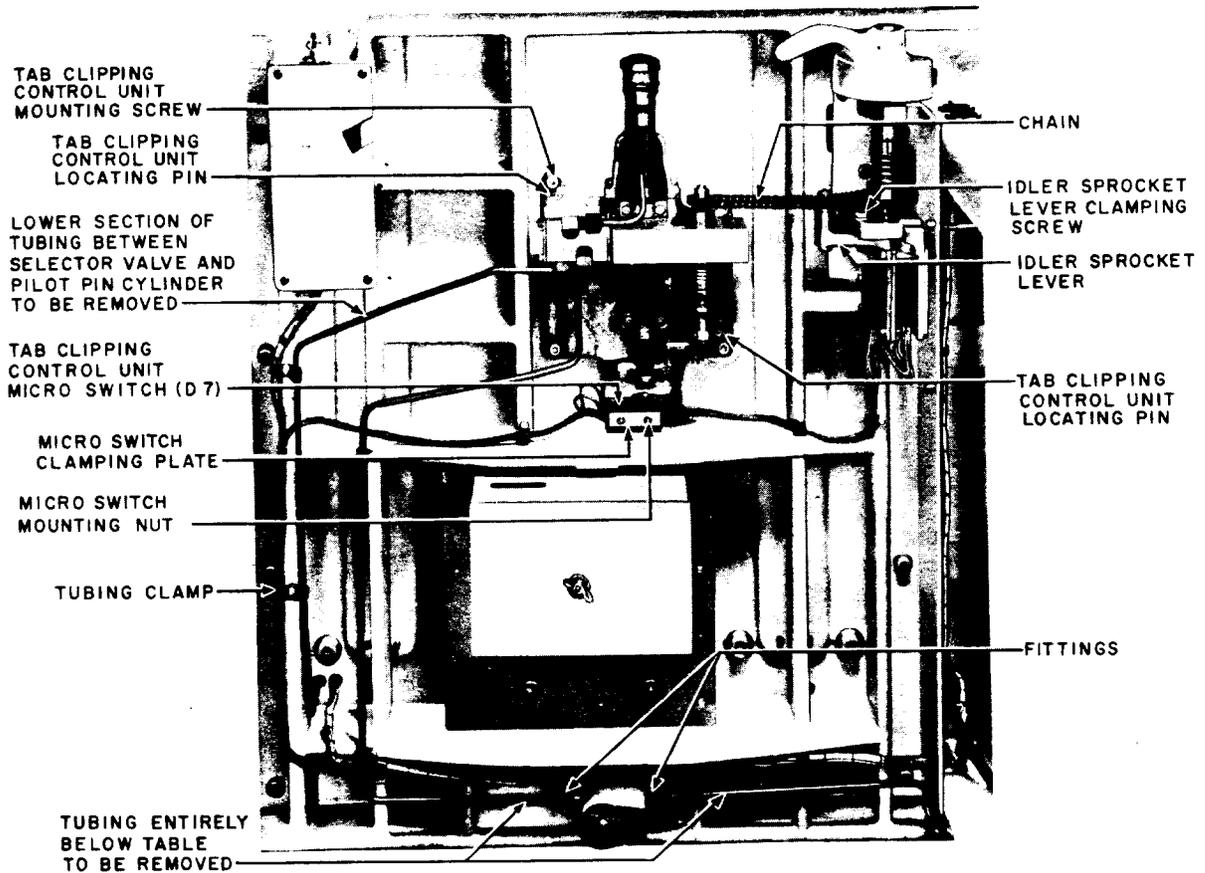

Fig. 4 - 659A and 659D Tools - Underside of Tool (cover removed)
6. CONVERTING THE TAB-CLIPPING CONTROL UNIT — Fig. 4 and 7
6.01 Remove the tab-clipping control unit Micro Switch mounting nuts and clamping plate (Fig. 4) using the 418A wrench. Remove the Micro Switch and cover and allow the Micro Switch to hang by its leads.